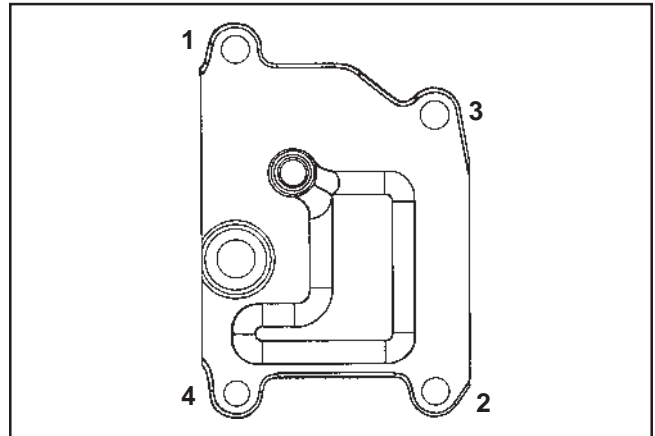

Figure 11-26. Breather Cover Fastener Torque Sequence.
6. Install and torque the four breather cover hex. flange screws to **7.3 N·m (65 in. lb.)** in the sequence shown in Figure 11-26.